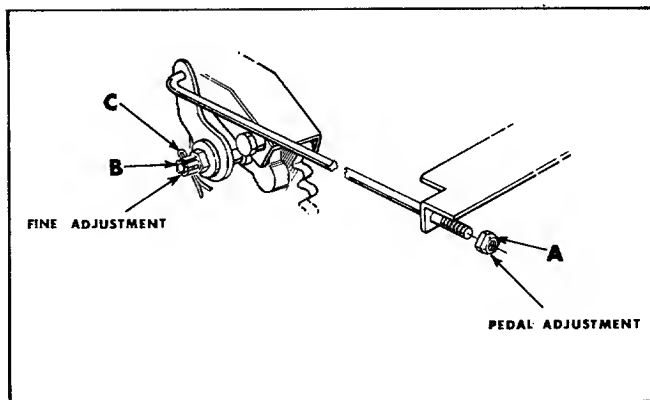

FIG. 12
**PEDAL ADJUSTMENT** - To take up the adjustment on the brake linkage, tighten or loosen the hex nut (A) on brake linkage. (See Fig. 12).
**FINE BRAKE ADJUSTMENT** - Remove hair pin (C). Turn the castle nut (B) clockwise to tighten one quarter revolution and check brakes. Repeat as necessary to have proper braking power. Replace hair pin (C). (See Fig. 12).